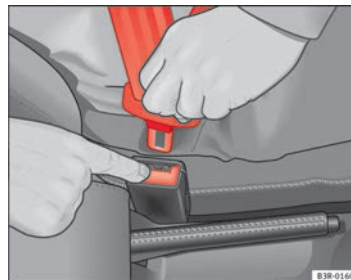

Fig. 15 Remove latch plate from buckle
- Press the red button on the belt buckle ⇒ Fig. 15. The latch plate is released and springs out ⇒ ⚠.